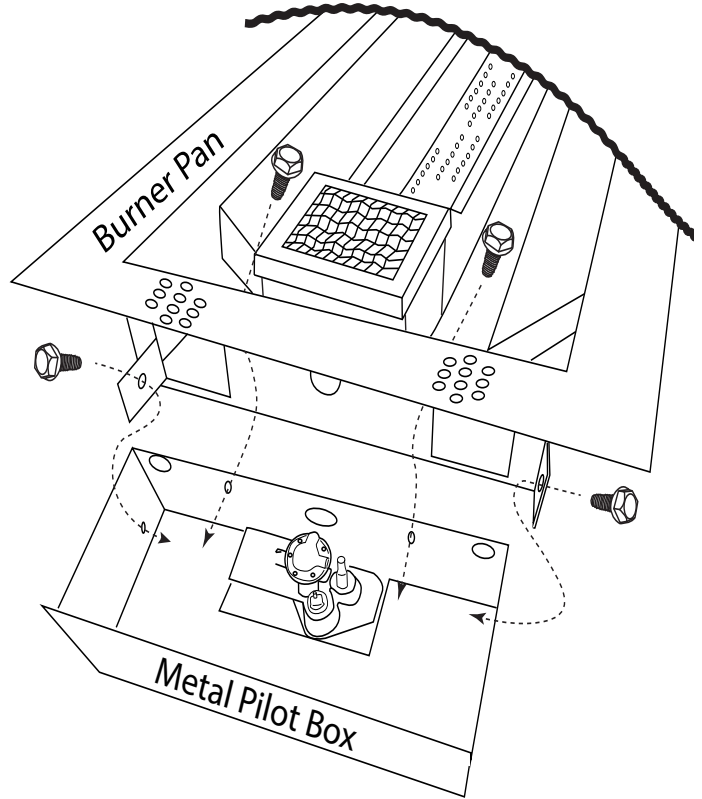

Fig. 6 Pilot box screw locations
Step 7: On the end of the burner pan where the pilot is located (see Fig. 6), remove the four (4) 1/14" hex head screws securing the metal pilot box. Two screws are located inside the burner pan, one on each side of the ignitor box screen mesh hood and the other two are securing a metal tab on each side of the pilot box. See Fig. 6 for screw locations.
Once the orifice has been converted to LP then re-install the pilot hood, ensure the clip is in place (if removed) and mount the metal pilot box back into place in the same manner you removed it from the burner pan. See Fig. 6 as a reference.